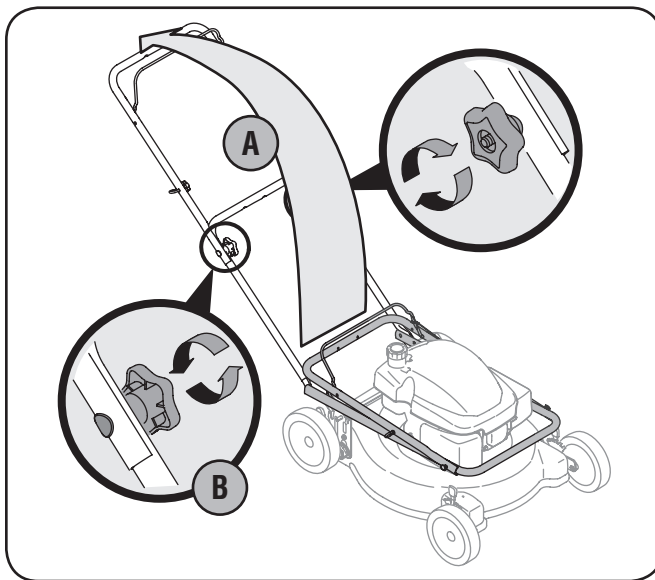

Figure 3-1
- a. Pull up and back on upper handle as shown in Fig. 3-1. Make certain the lower handle is seated securely into the handle mounting brackets. Do not crimp cable while lifting the handle up.